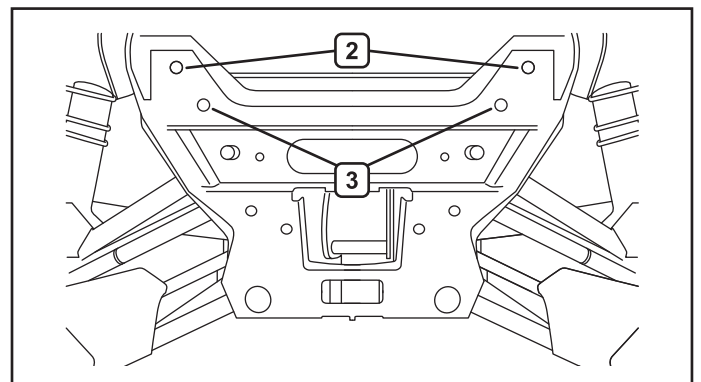
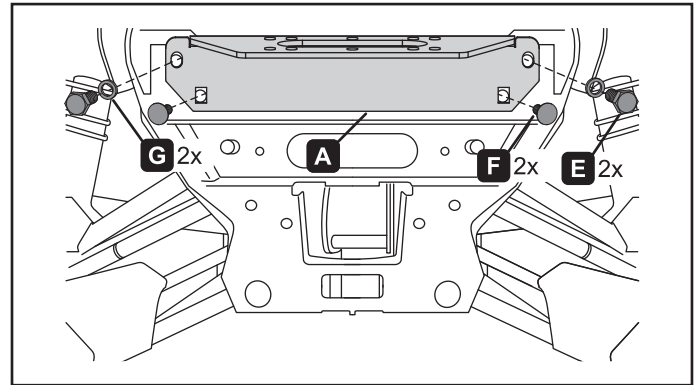

Figure 6.
Figure 7.
4. Install winch mount (A), start by using bolts (E) and washers (G) in holes marked (2) in figure 6. See figure 7 on the following page for detail.
5. **2020 and older machines:** Install bolts (F), washers (D) and nuts (C) in holes marked (3) in figure 6 on previous page. See figure 7 for detail.